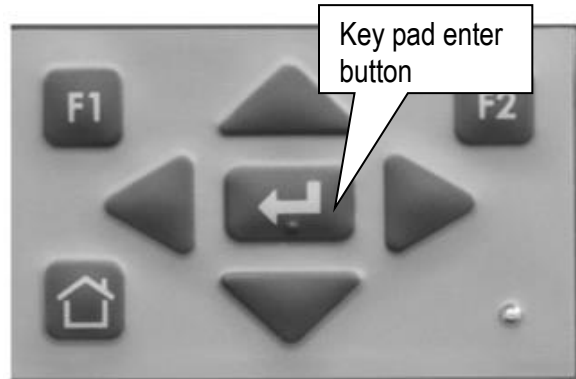

Figure A3
**NOTE:** During this procedure you will be asked several times to “select enter on the key pad”. Each time, use the key pad enter button shown in Figure A3.